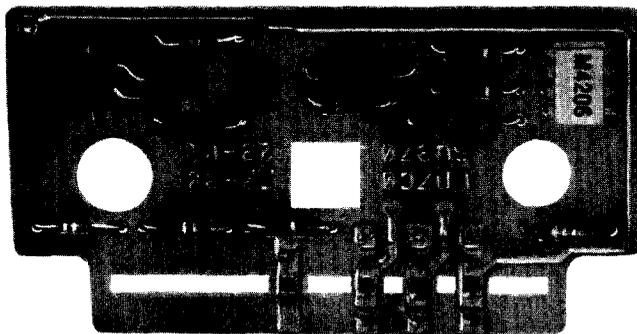

Fig. 1—E6 Solid-State Disabler
**1.01** This section describes the solid-state disabler (Fig. 1) designed for use with the E6 repeater. This unit will replace the J99253L-2 disabler (MD) in all circuit applications.